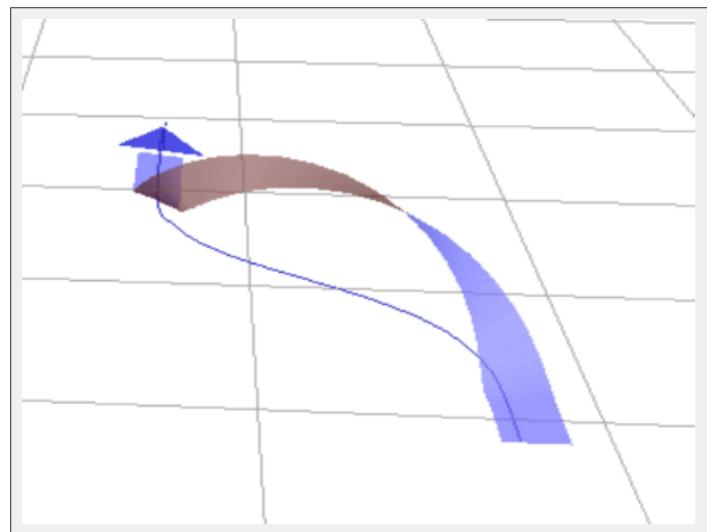

Figure 8.10: Diagram of a barrel roll. Thanks to MioUzaki for releasing this image into the public domain. [Full size →]
- barrel rolls—often described as “a cross between a roll and a loop” (see Figure 8.10)